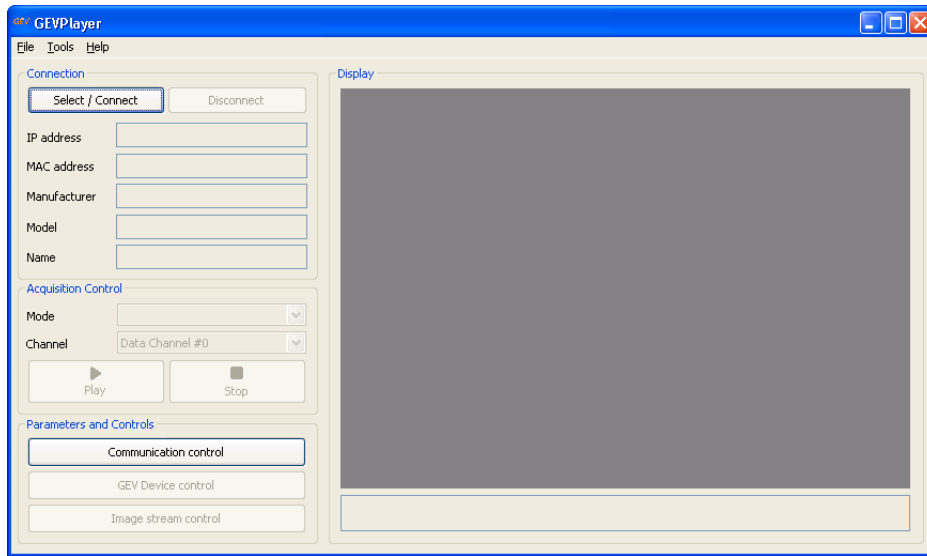

Figure 2.3: GEVPlayer start screen
1. For all Photonfocus cameras, except the DR1 cameras: open the GEVPlayer software (Start -> All Programs -> Pleora Technologies Inc -> eBUS SDK -> GEVPlayer) which is a GUI to set camera parameters and to see the grabbed images (see Fig. 2.3). For DR1-D1312(IE)-G2 cameras: open the DR1_GEVPlayer software contained in the DR1 software package. DR1_GEVPlayer adds the demodulation of images grabbed in DoubleRate_Enable=True mode while all the functionality of the GEVPlayer is retained.